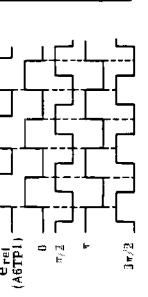

Figure 8-5. Timing Diagram.
The E_m signal is selected by FET switches A5Q9 thru Q12 which are, in turn, controlled by signal selection signals from the digital section. The method of selecting the E_m signal is graphically shown in Figure 8-5 Timing Diagrams. The selected E_m signal is amplified by A5U5A, U5B and becomes an input signal for the phase detector on A6 Board. C OFFSET signal on rear panel is a signal opposite in phase to the signal at the H_{CUR} terminal. When Cp TEST SIG LEVEL switch is set to 50mV position, the gain of amplifier A5U6A, U5B is increased. An SAT Detector detects an E_m signal level that exceeds approximately ± 5 volts and transfers SAT signals to digital section (A8 Board).
8-15. A6 Phase Detector and Integrator. In this board, the two input signals E_{ref} and E_m are converted to a ZERO signal which is fed to the A8 Board (digital Section). The E_m signal is used as an APAO (Auto Phase Adjustment Output) signal only when auto phase adjustment signal is fed to A6 Board to minimize any phase error which could cause a measurement error. However, firstly, E_{ref} is fed into the Phase Locked Loop (PLL) circuits consisting of a phase detector (PD), filter and VCO (voltage controlled oscillator) and is converted into four reference phase signals each being different by 90 degrees in phase one from the other. These four signals are individually selected by the digital circuitry and one is used as the phase detection signal for phase detector A6U6 thru U9 which phase detects the selected E_m signal. The dc output of the phase detector is applied to the integrator. The output of the integrator is monitored by the Zero Detector to observe the time that the zero level is crossed. This zero signal is sent to Digital Section (A7 Board) by Zero Detector. The output of the phase detector is also provided through A6U10, Q15, C12, etc. to A5 Board as an APAO (Auto Phase Adjustment Output) signal for the period of auto phase adjustment. All logic switches on this board are controlled by control signals from the digital section. See Figure 8-5 for details.
8-25. Figure 8-5 presents a timing diagram for the 4261A. Firstly, output waveforms of the integrator, excute time for each measurement sequence, and main control signals are shown in the upper part of the diagram. The sequence excute times are different for measurement frequencies of 120Hz and 1kHz since the electrical response time for the frequencies are different and a 4f signal (four times the measurement frequency) is sometimes used for determining the charging cycle. Note that the excute time for the discharge sequence is variable. As you can understand from the diagram, the instrument first measures the L/C or R value and then the Dissipation Factor (D). To minimize error, offset null and auto phase adjustment sequences precede the L/C and R
8-26. The lower part of the diagram shows how the analog circuits are controlled. Waveforms for the V TEST signal voltages (which control E_m voltage selection -- selecting either the voltage across Rr or the voltage across the UNKNOWN) and detection phase for phase detector on A6 board are shown for each circuit mode in the table in Figure 8-5. Both upper and lower sections of the waveform timing diagram have the same time scale. $-E_x$, $-E_x/10$, $-E_y$ and $-E_y/10$ in the E_m column are names for the voltages shown in diagram Note 2. The detection phases 0, $\pi/2$, π , or $3\pi/2$ are the same as the phase selection signals sent to the A6 board. The phase relationships of the voltages applied to phase detector FET switches A6Q6 and Q9 are shown in diagram Note 3 along with the phase of the E_{ref} signal at A6TP1. In R measurements, measurement steps 1 and 2 in D measurement cycle are skipped.